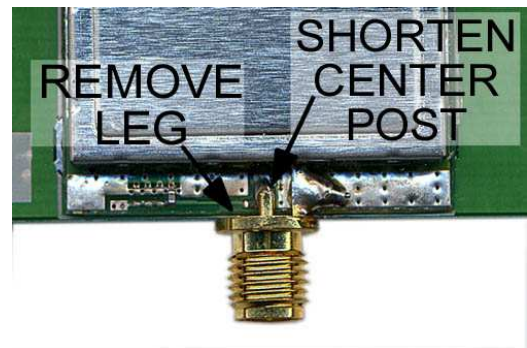

Figure 7, SMA Modification
As seen in figure 7, cut off the ground leg that is on the top left side. This is needed to prevent shorts to the module's nearby circuitry (on some modules there is a tiny SMD component hidden there). Also, the SMA-RP's center post needs to be shortened a small amount so that it does not short out to the metal case, as shown.
- 5.3 Carefully solder the three ground legs and the center post, as shown in Figure 7. Ensure the module's metal enclosure is not shorted to the center post conductor. Clean off ALL flux, even if no-clean solder was used. Perform a visual inspection (do NOT use an ohmmeter).